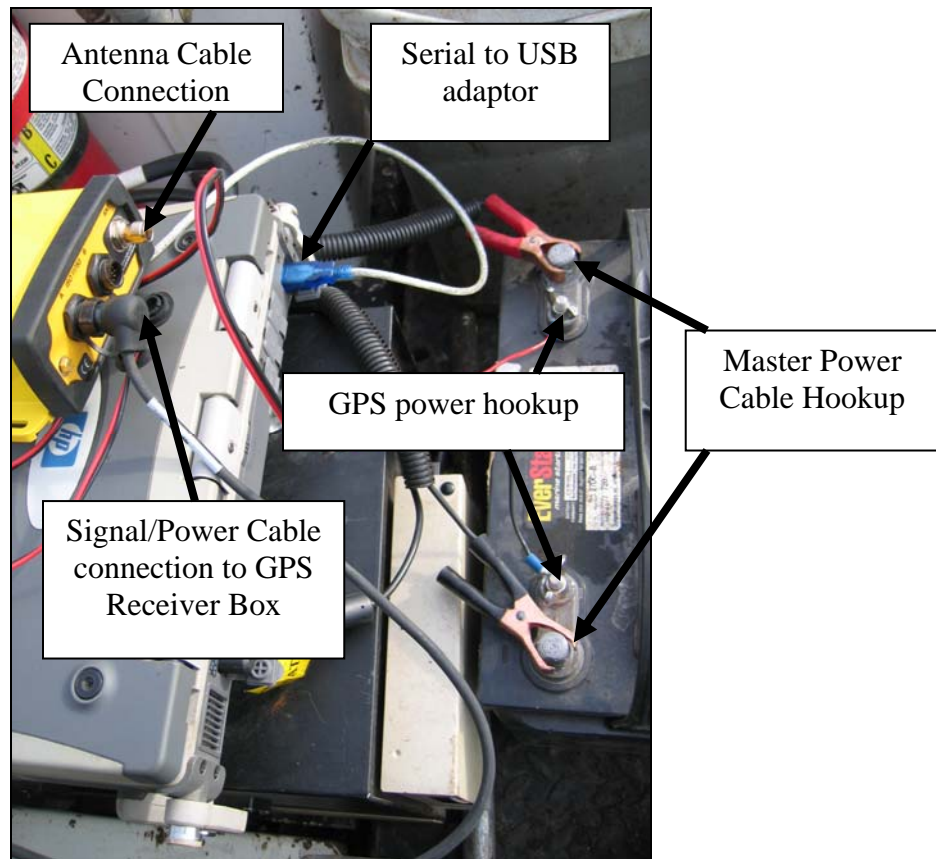

Figure 10. GPS Receiver Hookup.
- Place the GPS receiver box with the Master Control Box on the paver deck and connect the antenna and signal/power cable to the GPS receiver box (See Figure 10).
- Connect the GPS signal cable to the computer serial port, or use a serial to USB adaptor to connect the GPS signal cable to the computer's USB port (See Figure 10).
- Connect the GPS power leads to the 12 VDC battery (See Figure 10).
- Connect the alligator clamps on the Master Power Cable to the appropriate positive and negative battery terminals. First connect the red clamp to the positive battery post, then connect the black clamp to the negative battery post (See Figure 10).